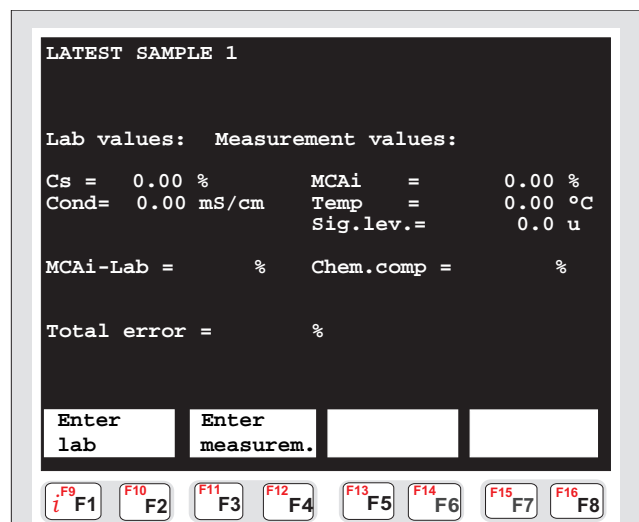

Fig. 9.7. “Latest sample 1” display.
1. Press [F1&F2] Latest sample 1 to open the display shown in Fig. 9.7.